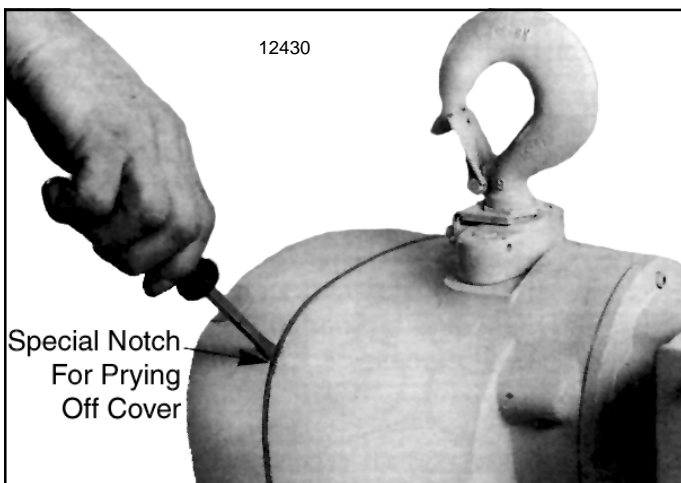
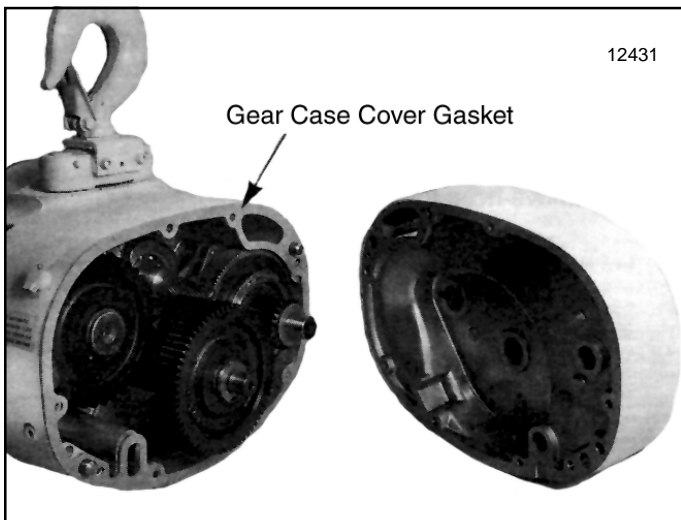

Figure 7-4. Prying Gearcase Cover From Hoist Frame
Figure 7-5. Gearcase Cover Removed From Hoist Frame
(2) Remove eight hex socket head screws and lockwashers securing gearcase cover to hoist frame. Pry gearcase cover off hoist frame using screwdriver at special notches provided at opposite corners of cover (Figure 7-4). Gearcase cover can now be lifted from frame (Figure 7-5). Discard gearcase cover gasket.